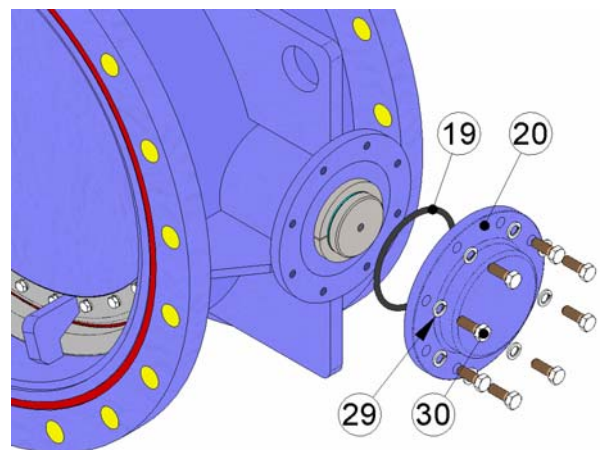

fig.12
**Note:** The numbers in brackets refer to the image in figure 12.